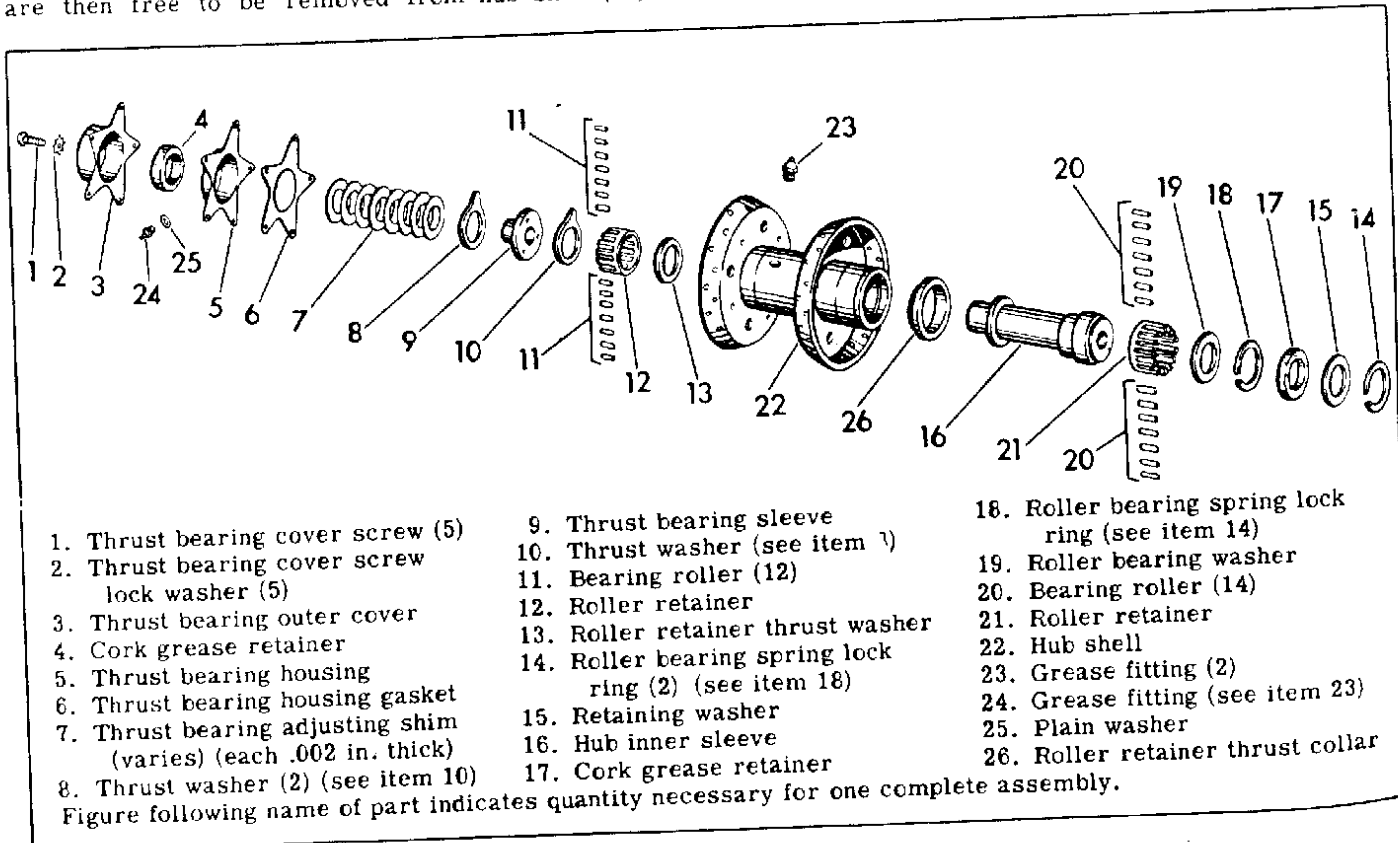

Figure 2C-3. Wheel Hub - Exploded View
**ASSEMBLING WHEEL HUB (Fig. 2C-3)**